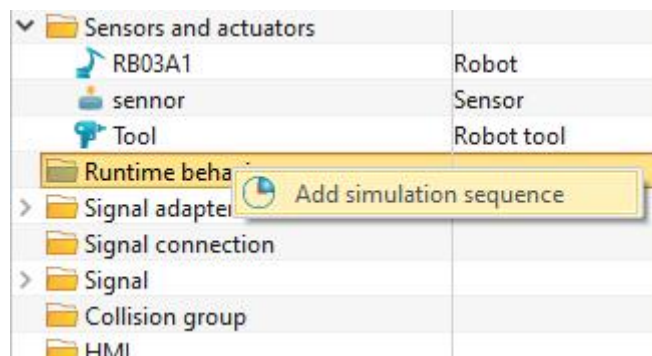

Figure 10-14: Add simulation sequences
Step 9: Add simulation sequences (3)
- Select “Add simulation sequence”. (Figure 10-14)